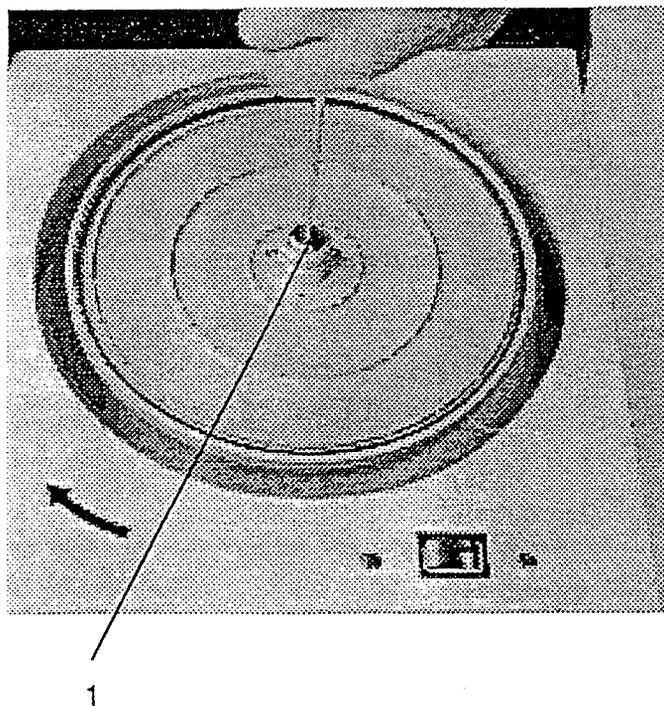

Figure 11
Secure the rotor to the shaft by turning the rotor nut (1) counter-clockwise. When doing this, hold the rotor with the other hand (see figure 11).